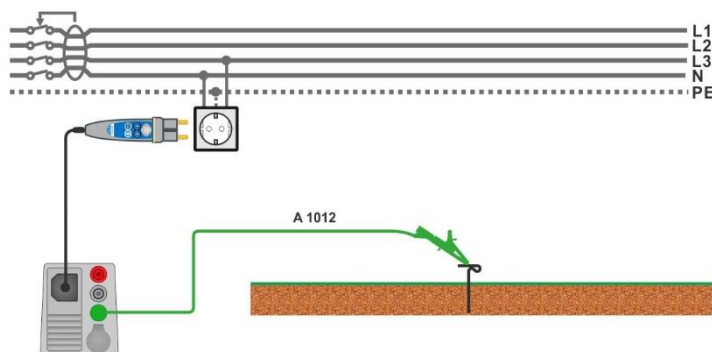

Figure 7.49: Connection for $U_c(P)$ measurement
- › Connect test lead P/S to external earthed point (optional), see **Figure 7.49**.